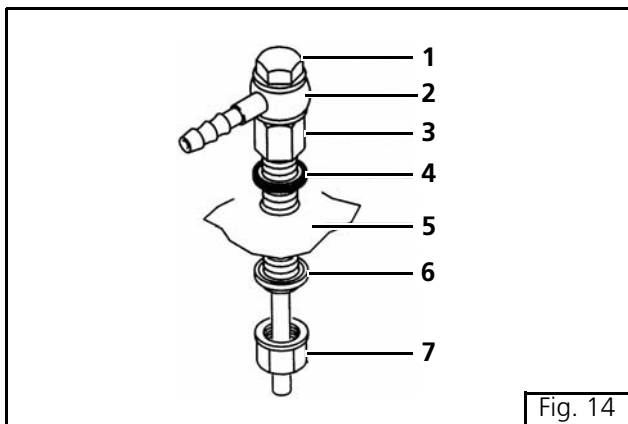

Fig. 14
Install standpipe as shown in Figure 14.
Refer to figure 14 for banjo fitting installation sequence. Tighten locknut to 9.0 - 9.5 Nm (80 - 84 lb.-in.)
**Legend for Figure 14**